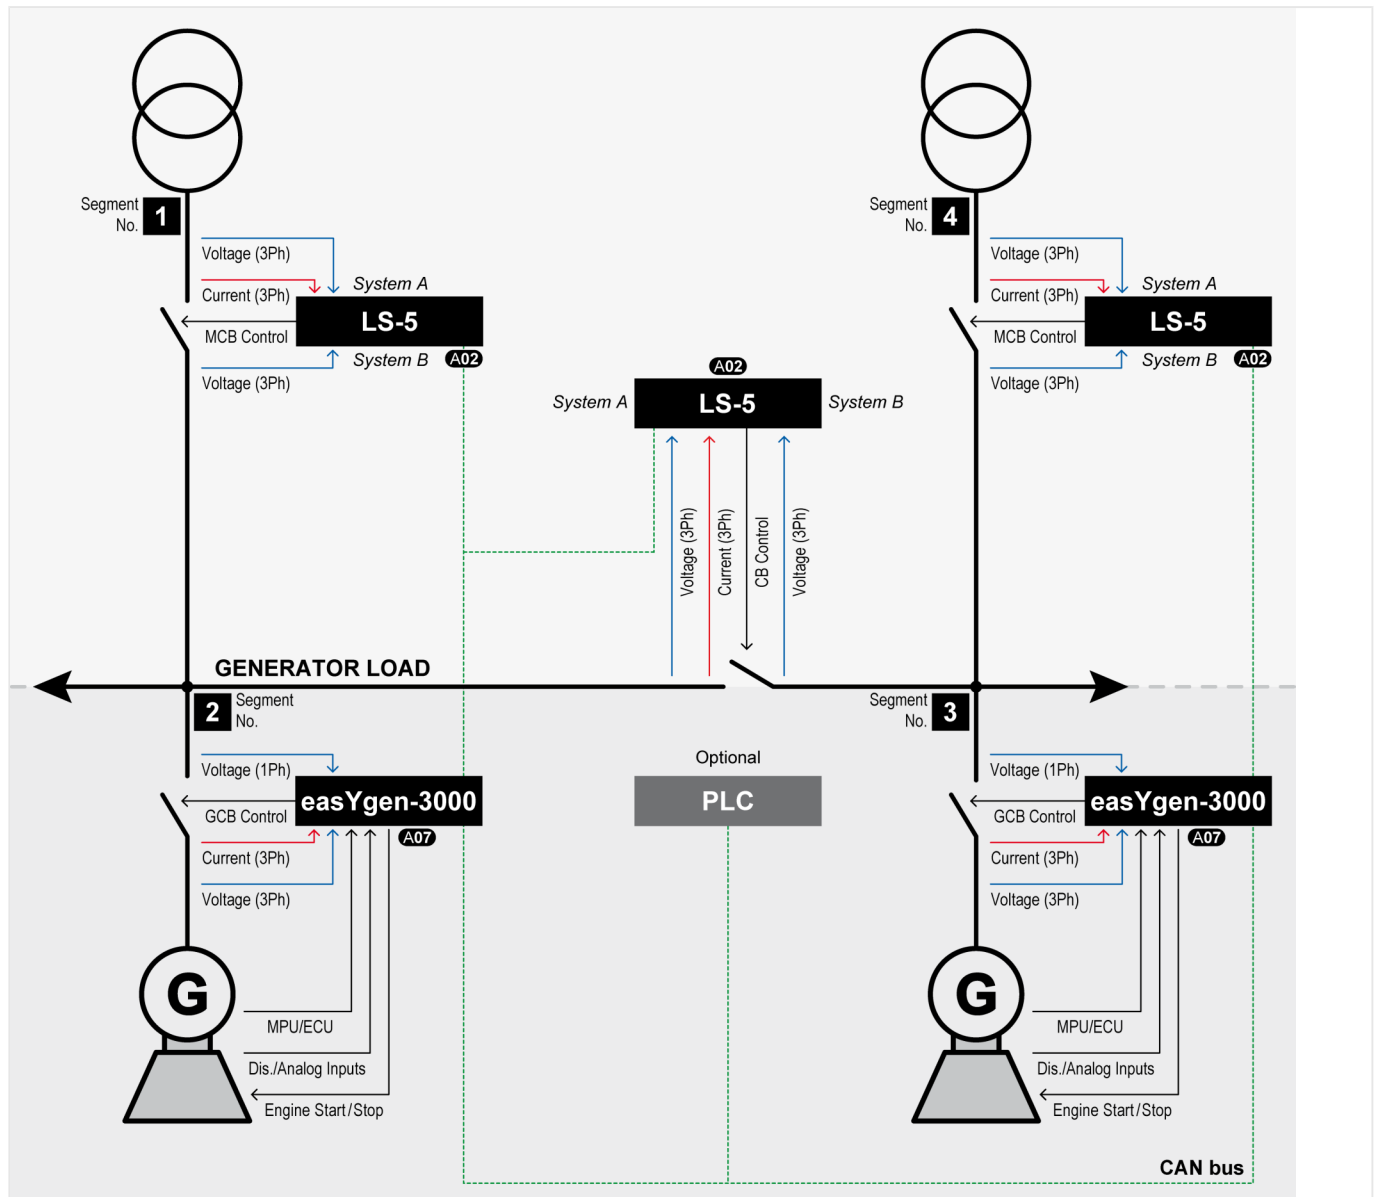

Fig. 145: H-Configuration with two easYgen and two incoming mains and tie-breaker
One or more genset(s) feed on a generator/load busbar (➡ Fig. 145/Segment No. 2). One or more genset(s) feed on a generator/load busbar (➡ Fig. 145/Segment No. 3). A tie-breaker is located between the both generator/load busbars. Each generator/load busbar has its own incoming mains breaker (➡ Fig. 145/ Segment No. 1/4).
1. ▷	The system A voltage and current measurement is connected to the generator/load busbar segment (↳ Fig. 145/Segment No. 2).
2. ▷	The system B voltage measurement is connected to the generator/load busbar segment (↳ Fig. 145/Segment No. 3).